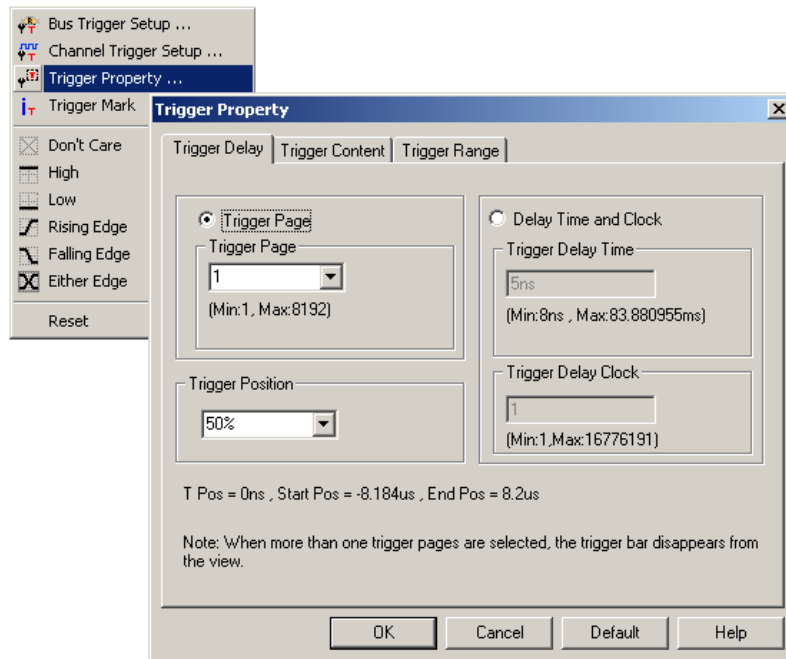

Fig 4-5 - Trigger Property
Step1. Click icon or click **Trigger Property** from the **Trigger** on the Menu Bar. The dialog box will appear as shown in Fig 4-5.